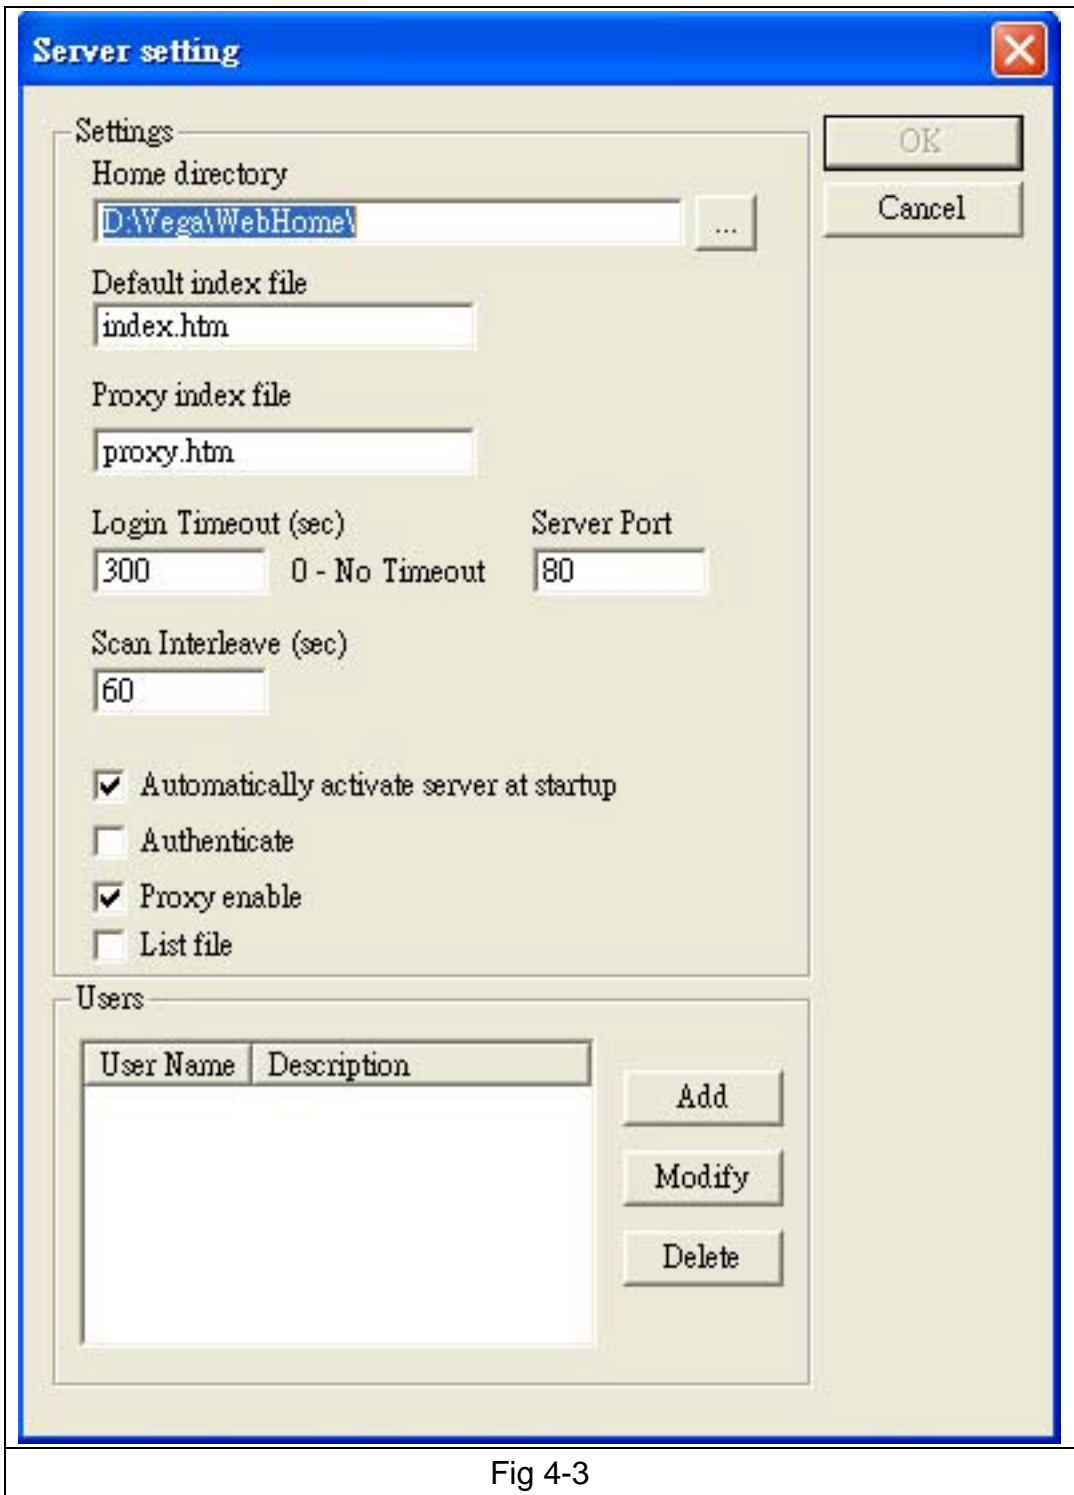

Fig 4-3
3. **Server Setting:** Setting the server's parameters. (Fig 4-3)